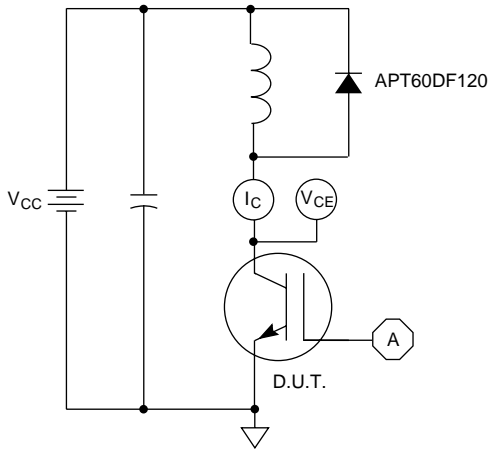

Figure 21, Inductive Switching Test Circuit
⑤ E_{on2} is the clamped inductive turn-on energy that includes a commutating diode reverse recovery current in the IGBT turn-on switching loss. A Combi device is used for the clamping diode as shown in the E_{on2} test circuit. (See Figures 21, 22.)
⑥ E_{off} is the clamped inductive turn-off energy measured in accordance with JEDEC standard JESD24-1. (See Figures 21, 23.)